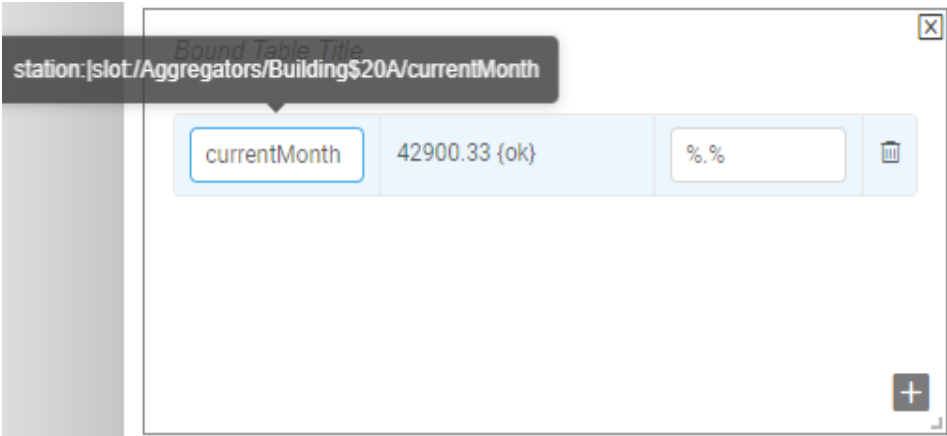

Figure 116 - BOUND LABEL AND VALUE IN THE EDITOR MODE
- Once Enter key is pressed then a row containing 3 columns is displayed (Figure 116). These are: the label, value and format. When hovering on the label then entire slot path is shown in a tooltip.